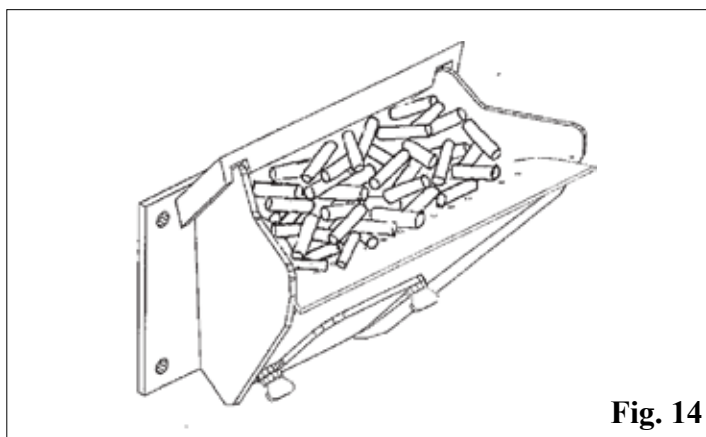

Fig. 14
8. Fill burnpot with pellets as shown. See Fig. 14. Only fill level with the front edge.